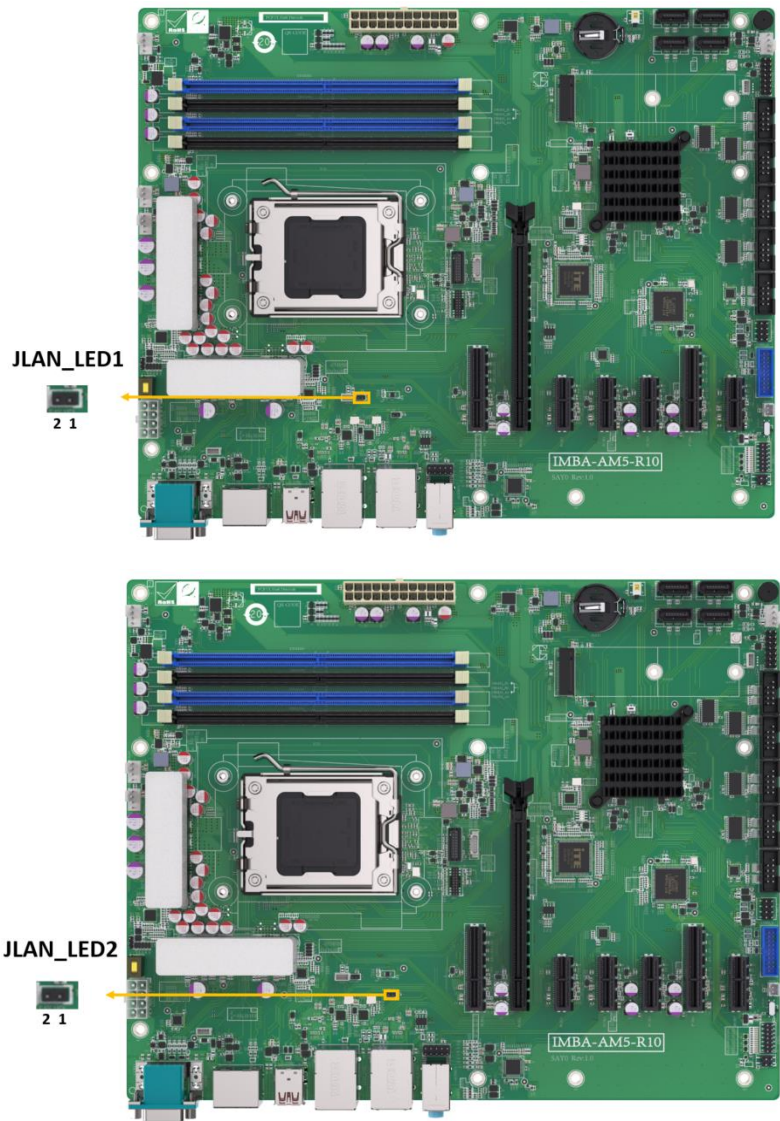

Figure 4-19: LAN LED Connector Locations
- CN Location:** See **Figure 4-19**